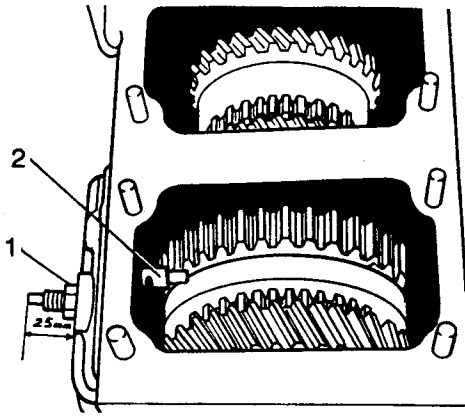

Fig H1.72
- (6) Refer to Fig H1.72. Replace the intermediate lever (2) together with the pad.
- (7) Replace the lever threaded pivot (1) and tighten the nut.
- (8) Replace the gearbox housing (see Sub-sub-section H1.3, Chapter 13).